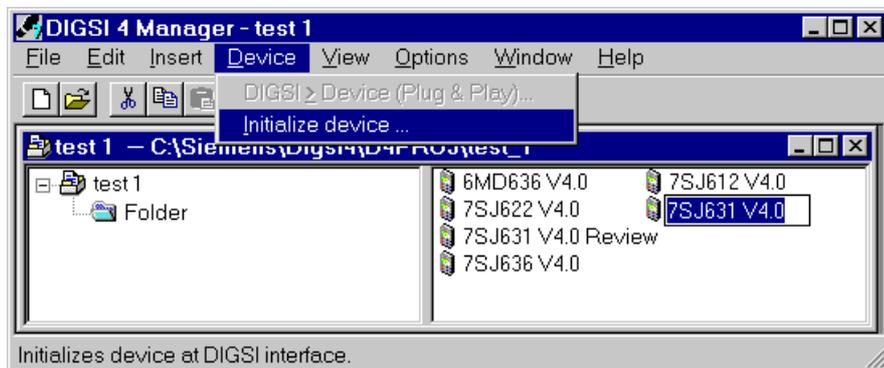

Figure 9-3 Initializing device via DIGSI® 4 — example
- Select **Initialize device** in the menu **Device** (Figure 9-3).